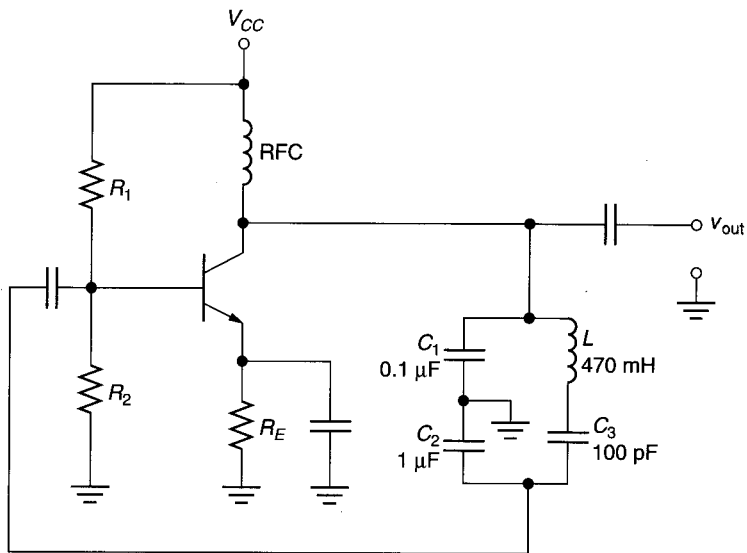

FIGURE 18.28
10. For the circuit shown in Figure 18.28, calculate the operating frequency, the value of  $\alpha_v$ , and the value of  $A_v$ .
11. A circuit like the one shown in Figure 18.28 has values of  $C_1 = 0.1 \mu\text{F}$ ,  $C_2 = 1 \mu\text{F}$ ,  $C_3 = 100 \text{ pF}$ , and  $L = 3.3 \text{ mH}$ . Calculate the operating frequency, the value of  $\alpha_v$ , and the value of  $A_v$  for the circuit.